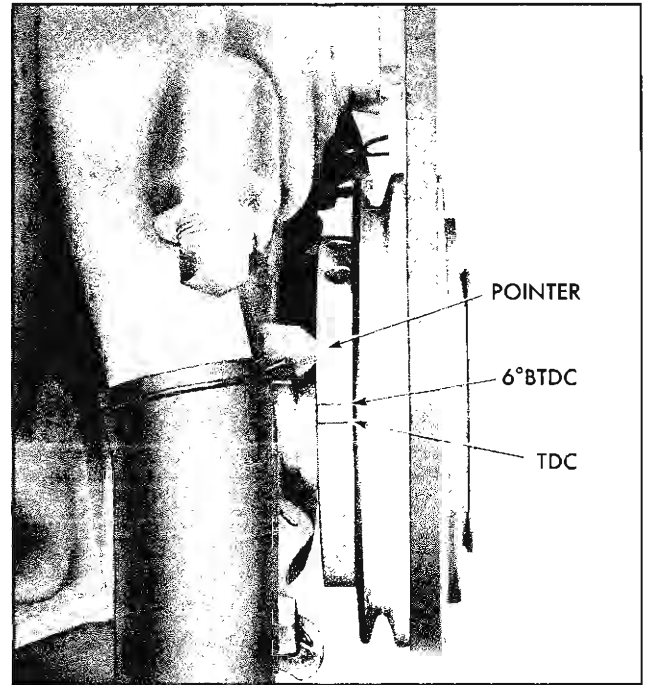

Fig. 11-48 Timing Marks and Pointer
1. Check to see that engine is at firing position for No. 1 cylinder (No. 1 piston at top of compression stroke) and timing mark on harmonic balancer is indexed with pointer (Fig. 11-48).
Correct timing of the spark, with relation to engine piston position, is made in the shop by use of a power timing light and timing marks on the harmonic balancer (Fig. 11-48).